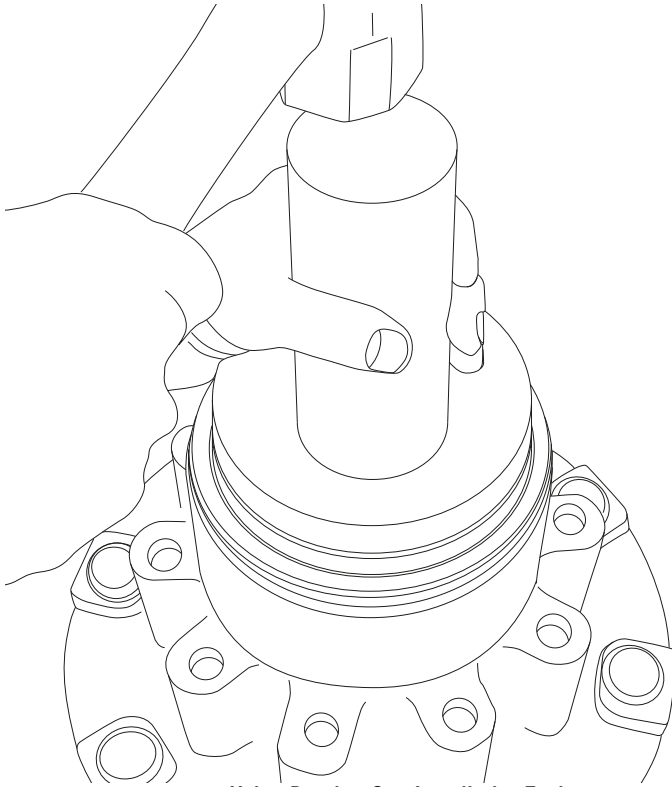

Figure 93: Using Bearing Cup Installation Tool
6. Install the bearing cup with a cup driver tool in a press to ensure the cup moves into the hub evenly. If this is not possible, use a hammer with the cup driver tool, but ensure the cup enters the hub vertically to avoid hub damage. Refer Figure 93.